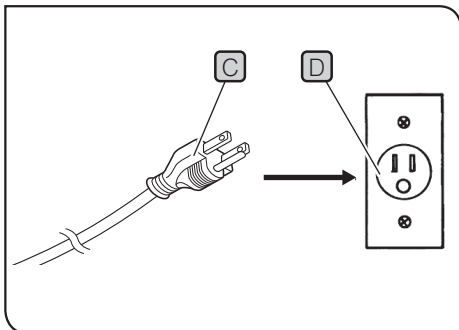

Fig.69
- 2 Plug the power cord plug **C** into the wall outlet **D**. (Fig.69)
- 2 Plug the power cord plug **G** into the wall outlet **H**. (Fig.69)